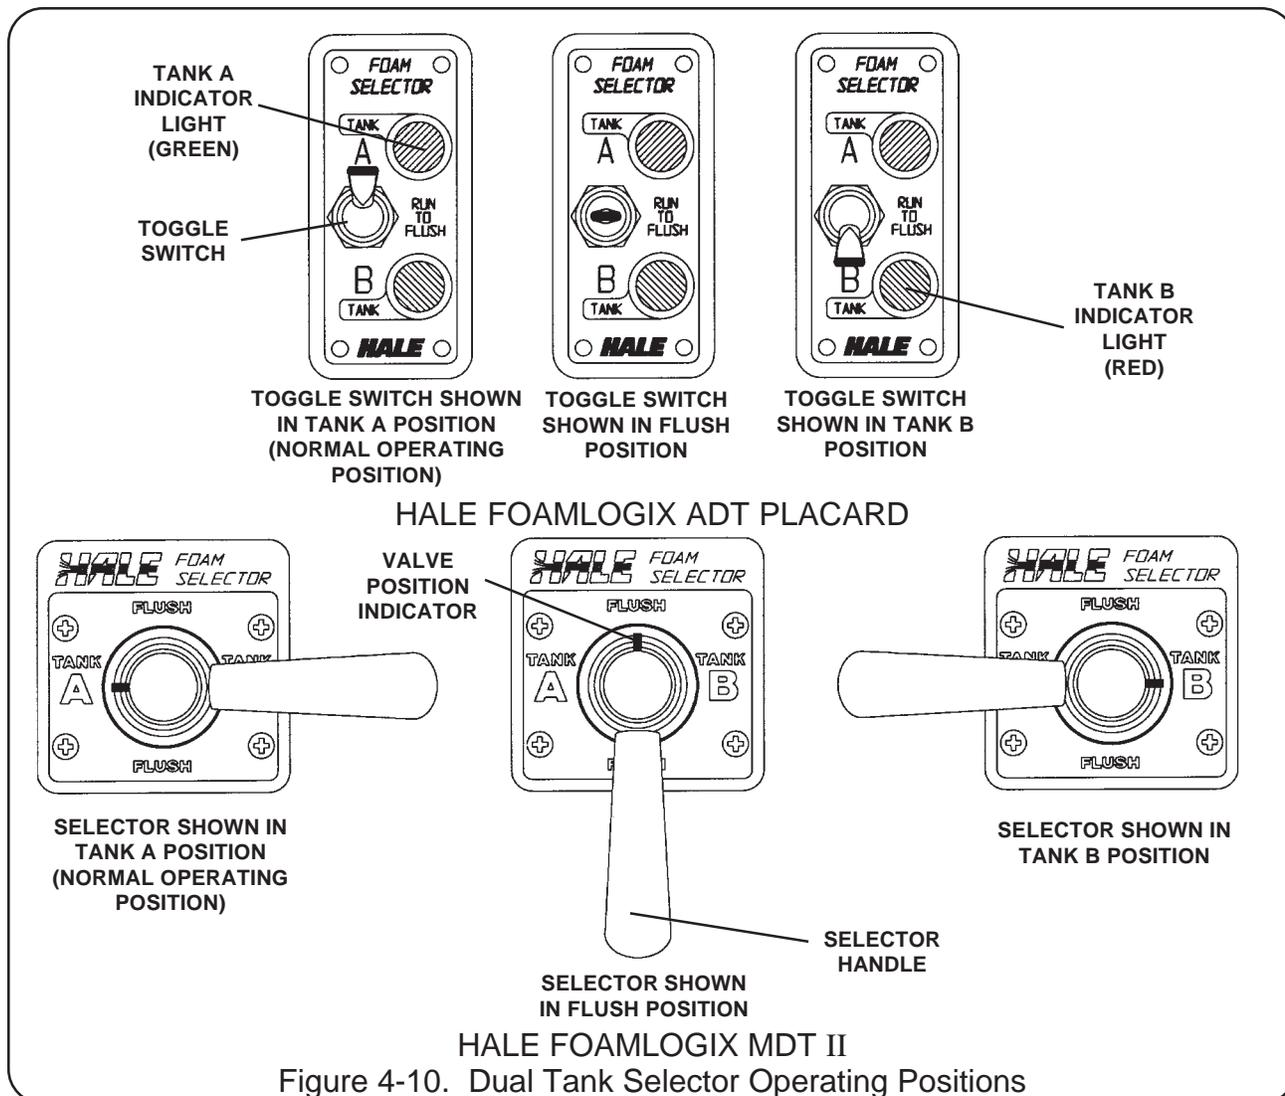

Figure 4-10. Dual Tank Selector Operating Positions
2. Flip the Hale ADT toggle switch down or turn the Hale FoamLogix MDT II handle until the indicator points toward the desired tank (See figure 4-10). When changing toggle switch or selector handle position, move smoothly from the **TANK A** position through the **FLUSH** position to **TANK B** position in one motion without stopping. With the fire pump discharging water and the Hale FoamLogix operating, a small volume of water will be provided to separate the two foam types helping to prevent possible reactions.
The following procedures shall be used to flush the foam pump. Refer to figure 4-10 for ADT or MDT II operating positions and refer to figure 4-11 for MST operation: